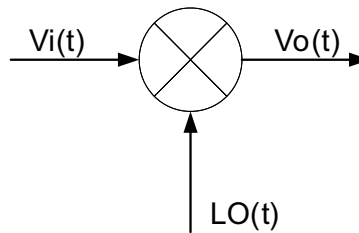

Figure 68. Block Diagram of Mixer Operation
The CW mixer in the AFE5812 is passive and switch based; a passive mixer adds less noise than an active mixer. It achieves good performance at low power. Figure 68 and the equations describe the principles of mixer operation, where $V_i(t)$, $V_o(t)$, and $LO(t)$ are input, output, and local oscillator (LO) signals for a mixer respectively. The $LO(t)$ is square-wave based and includes odd harmonic components, as shown in Equation 1.